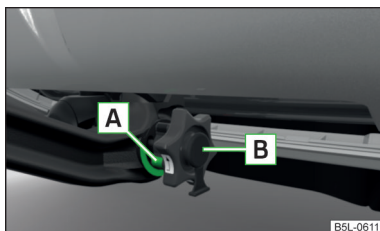

Fig. 131
- ✓ The green marking **A** » Fig. 131 on the handwheel is located in the green box on the tow bar.